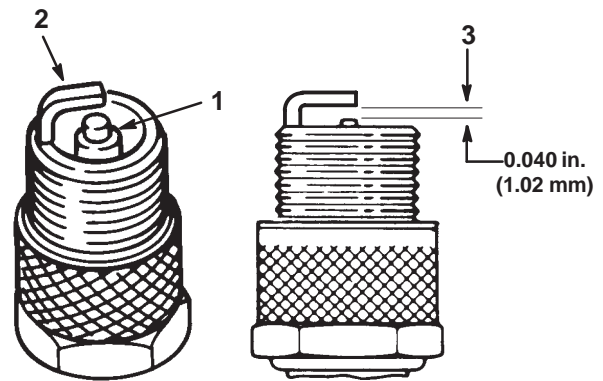

Figure 25
1. Look at the center of the spark plug(s) (Fig. 25). If you see light brown or gray on the insulator, the engine is operating properly. A black coating on the insulator usually means the air cleaner is dirty.
2. Check the gap between the center and side electrodes (Fig. 25). Bend the side electrode (Fig. 25) if the gap is not correct.